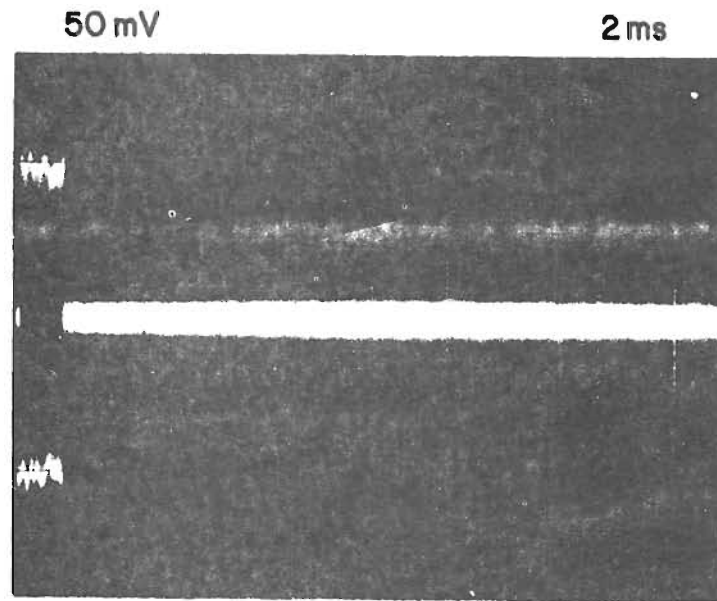

FIGURE 4-5 TRACK 10 DATA BURST
9. If the Index Burst Pattern is not found at track 10, with the exerciser, seek to tracks around 10 until the Index Burst Pattern is obtained (Ref: Figure 4-5).